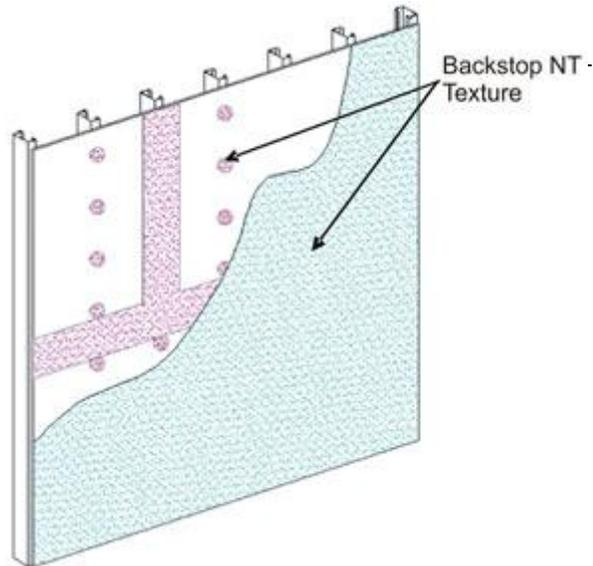

Figure 2
- 3) Use a coarse, open-cell foam roller cover with a 3/8 in (9.5 mm) foam nap (FoamPro #58 roller). Apply a uniform, continuous film of Backstop NTX - Texture over the entire surface of the sheathing, concrete or masonry, including the previously treated areas – Figure 2. **NOTE: If the roller pulls material back out of the sheathing joints, it indicates that the joint material is not sufficiently dry.**